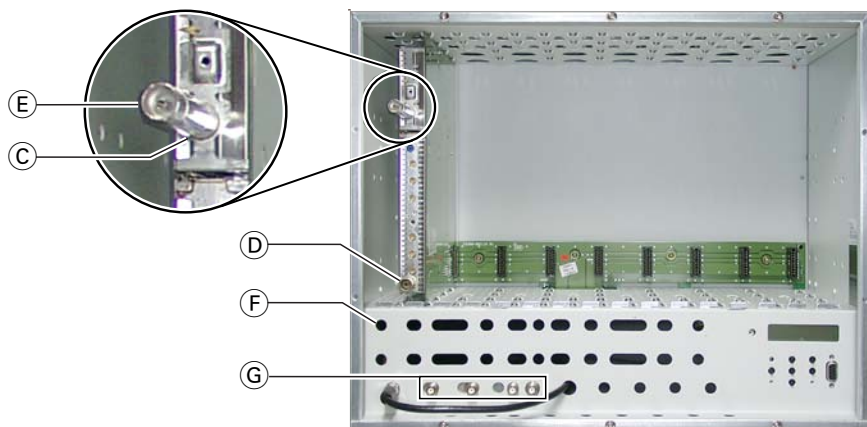

Fig. 3
- Connect output ③ of the FM amplifier to one of the inputs ④ of the quad output collector using the attenuator ⑤ and the IEC / F cable supplied. (fig. 3).